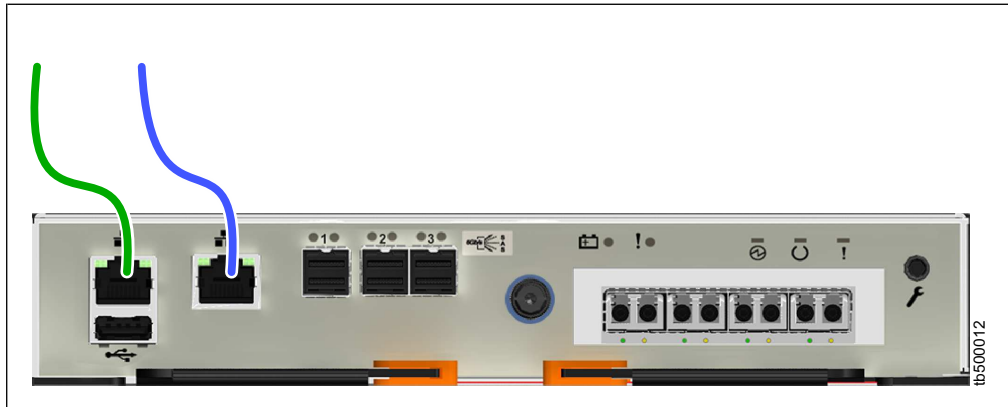

Figure 111. Connecting the Ethernet cables to a Storwize V5020 system
- a. Identify the location and function of the Ethernet ports on your system; refer to Figure 110 and Figure 111 on page 132.
Figure 111 on page 132 shows the Ethernet cabling and the ports on the back of a Storwize V5020 system.
- c. Optionally, connect Ethernet port 2 of each node canister in the system to a second IP network, as shown by the blue cable connection in Figure 110 on page 131 and Figure 111. This second port can be used to provide a redundant connection to the system management interfaces; it can also be used for iSCSI connectivity to the system by hosts on the network.